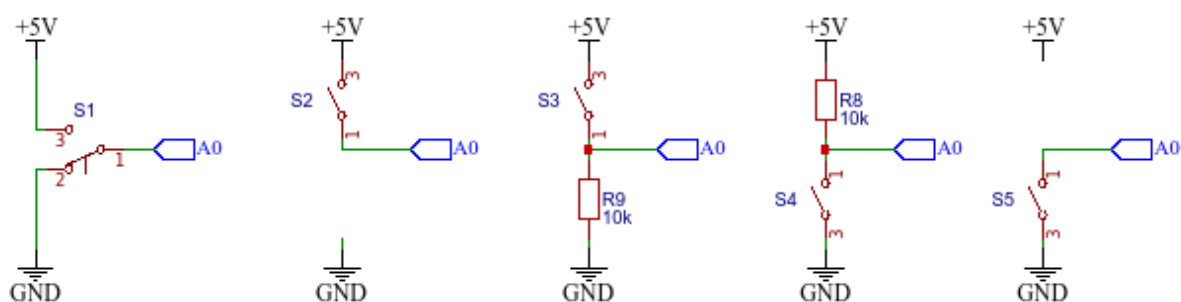

Figure 1: Different options of wiring the bush-button-switch.
1. Connect the push-button-switch according to first diagram on fig. 1 and test the program prog. 1
2. Try to connect the bush-button-switch according to second diagram on fig. 1
Try to understand why this setup is not working. And test all other options in fig. 1
3. Solve the problem by constructing a **voltage divider** with **pull-down** resistor (third diagram on fig. 1).
5. Change the setup of PBSW and resistor to a **pull-up** setup (fourth diagram on fig. 1). What is changed?
6. Enable internal **pull-up** resistor (and remove external one - fifth diagram on fig. 1).